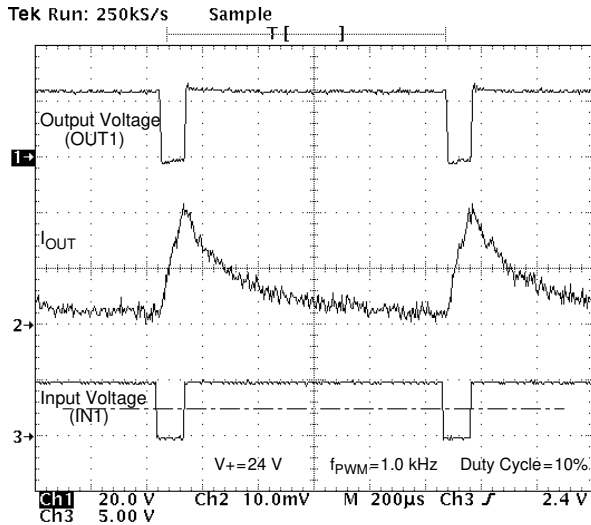

Figure 10. Output Voltage and Current vs. Input Voltage at V+ = 24 V, PMW Frequency of 1.0 kHz, and Duty Cycle of 10%
21. The outputs can be PWM controlled from an external source. This is typically done by holding one input high while applying a PWM pulse train to the other input. The maximum PWM frequency obtainable is a compromise between switching losses and switching frequency. Refer to Typical Switching Waveforms, Figures 10 through 17, pp. 10–11.